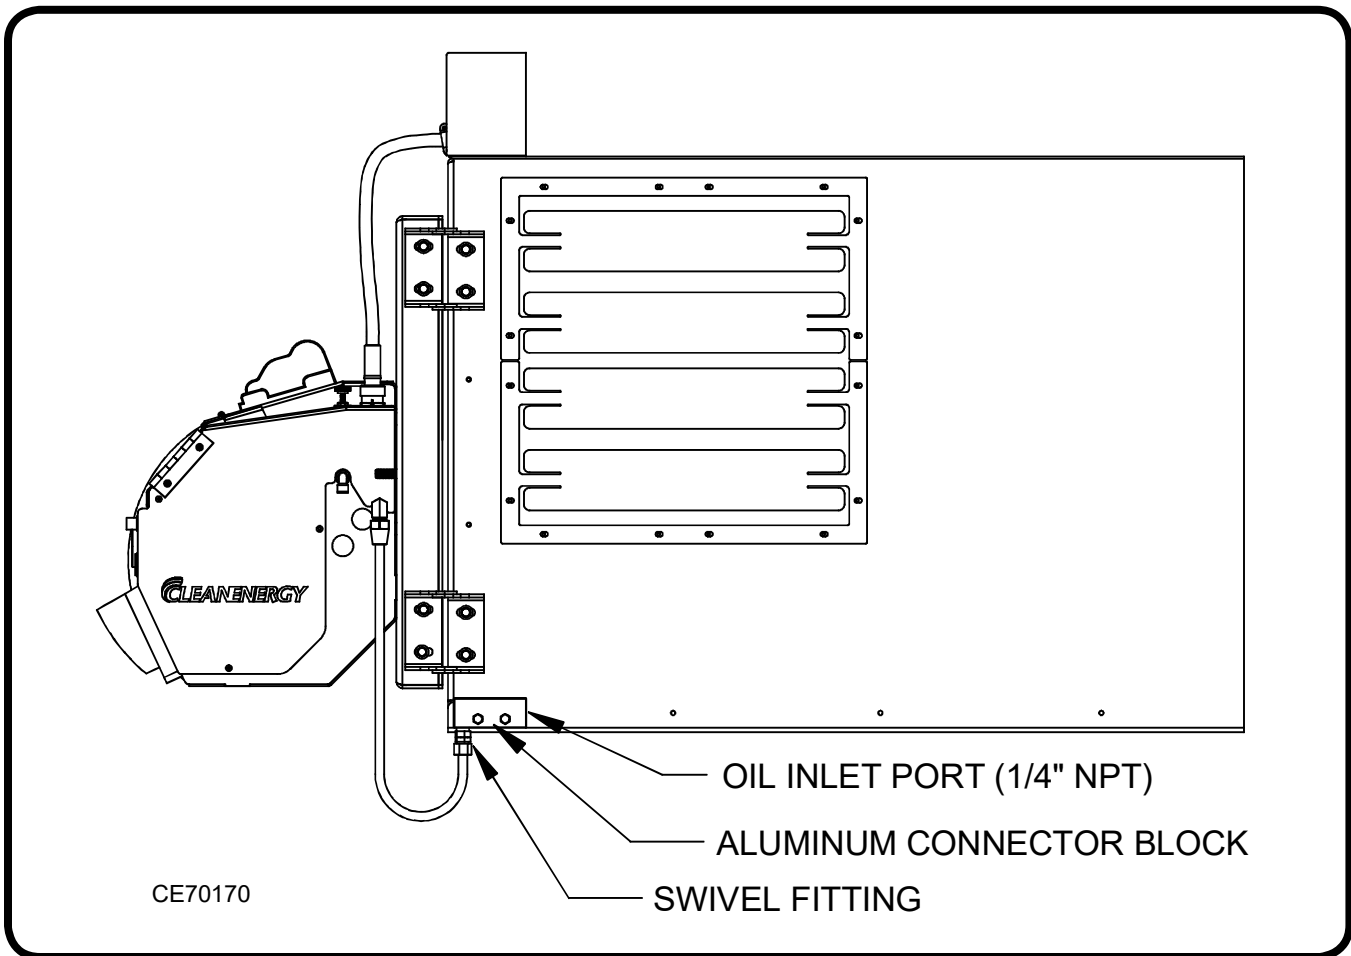

Figure 22: Connecting the Pressure Oil Line to the Connector Block
- (3) It is ideal to have the pressure oil line sloping up from the pump to the furnace. This reduces the risk of air pockets and nuisance shut downs.
- (4) Refer to Figure 22.
- (5) Connect the pressure oil line to the aluminum connector block on the side of the furnace.